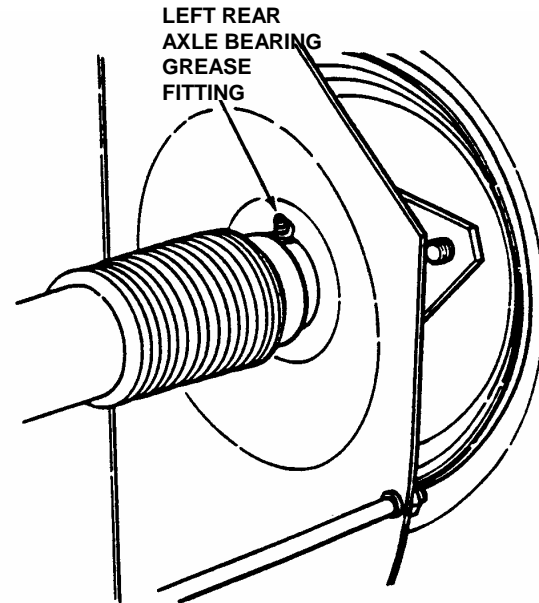

FIGURE 3.7
1. The left rear axle bearing requires three shots of general purpose grease from a grease gun. See Figure 3.7.